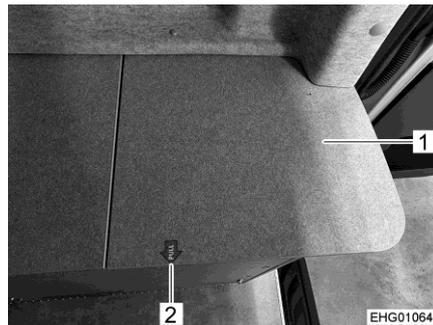

Fig. 95 Service opening, closed
- Pull the cover (Fig. 95,1) away towards the aisle (note the "PULL" (Fig. 95,2) sticker).
To close, push the cover (Fig. 95,1) back into its original position.